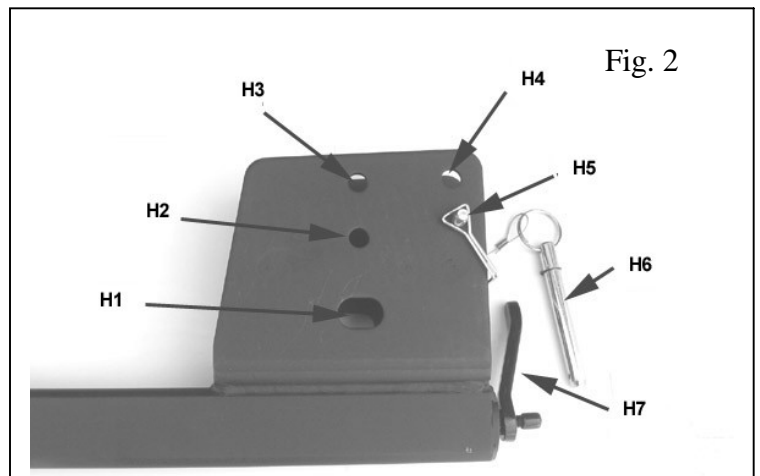

Fig. 2
2. See Fig. 2 and 3: Gently insert Main Beam E into Insert tube H, aligning holes H3 with E2. The main beam can rest on pin H5. There are two plastic washers (E3) attached to main beam E, please take care not to accidentally knock them off during assembly. Insert bolt A2 with washer through holes, then place washer on end of the bolt and hand tighten nut.
Please refer to fig. 2 and 10: Remove 3/8" dia pin (H5) from Insert tube bracket and gently lower the main beam down so it is resting on the welded stop.
11. Locking features: see fig. 2